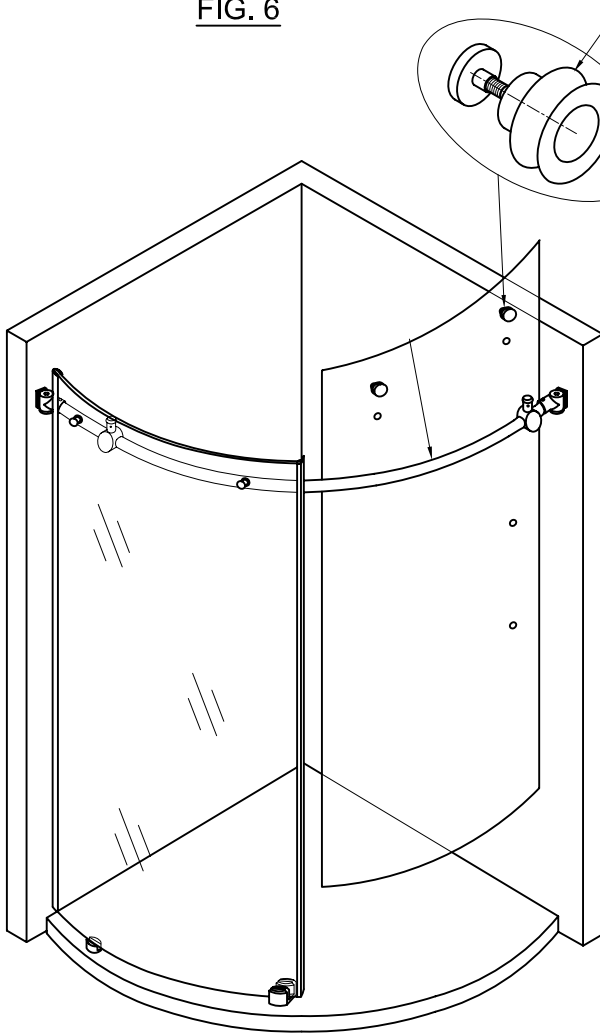

FIG. 7
2. Place door (5) to the structural rail (11), see FIG. 7.